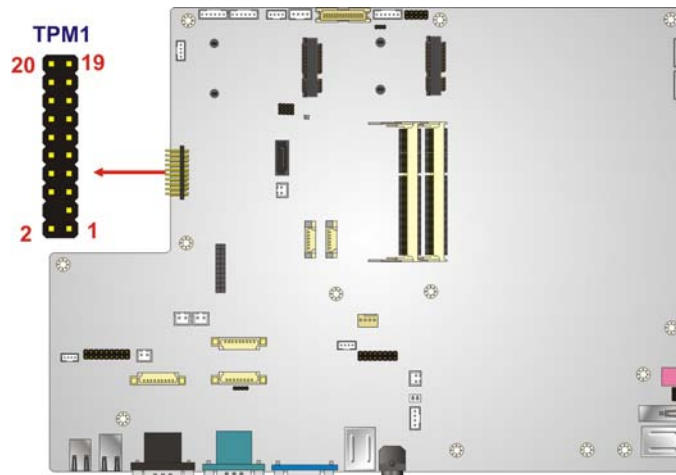

Figure 5-33: TPM Connector Location
- CN Location: See **Figure 5-33**